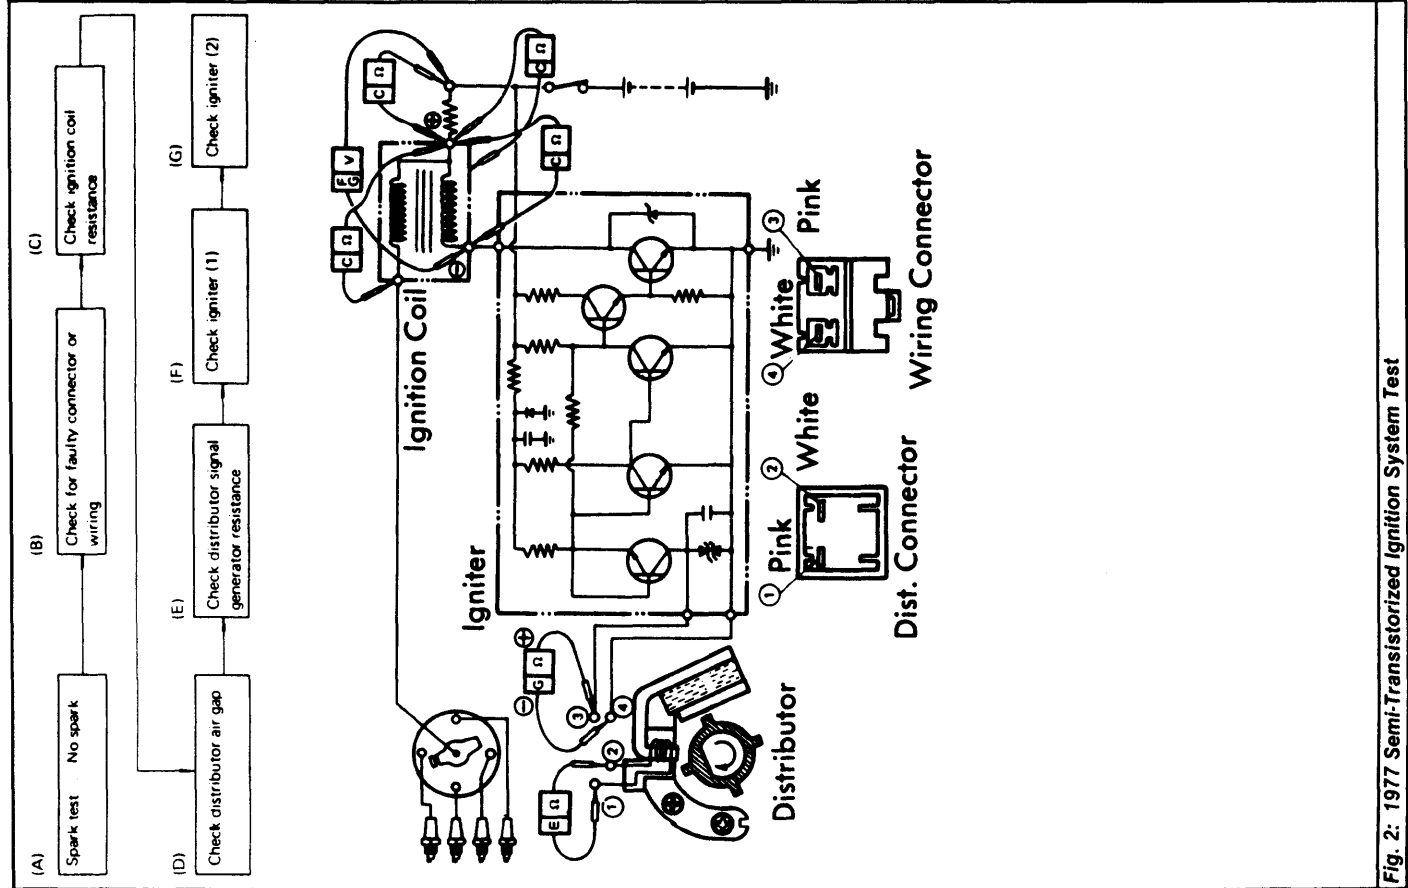

Fig. 2: 1977 Semi-Transistorized Ignition System Test
- 1977 Models** - See applicable transistorized ignition system diagnostic chart and perform test as outlined. See Figs. 2 and 3.